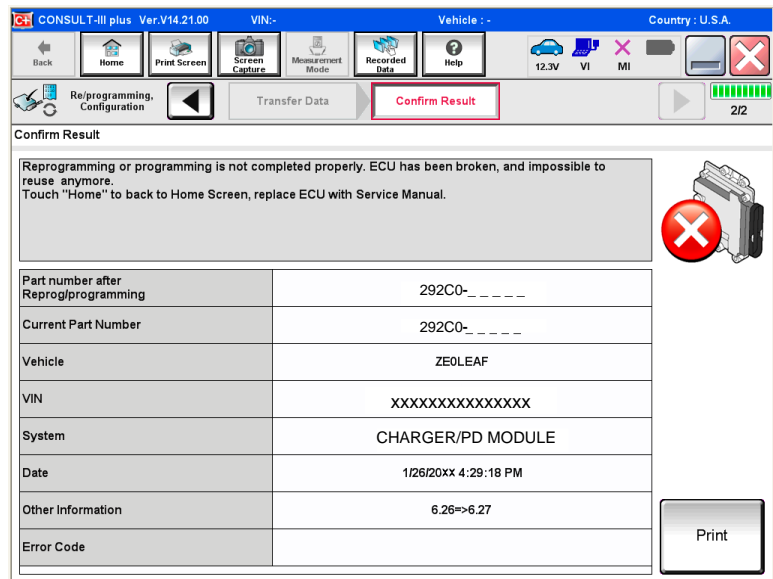

Figure 18
**OR:** If reprogramming does not complete and the **X** displays as shown in Figure 18: